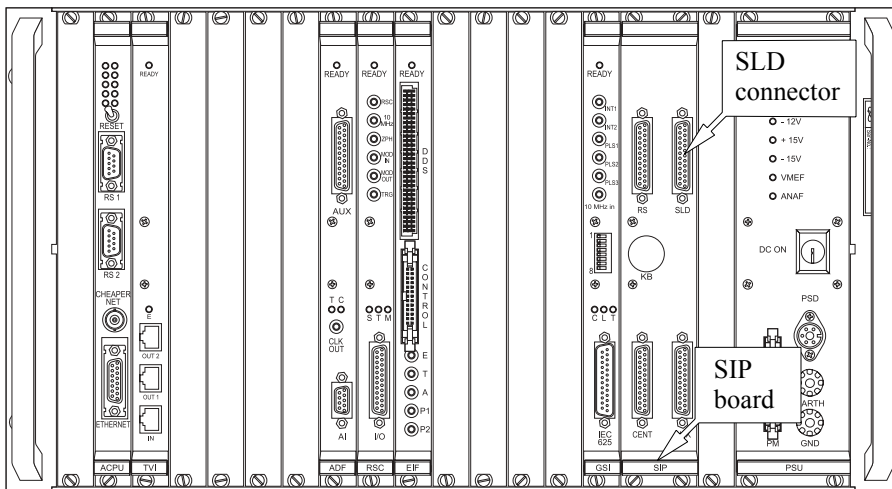

Figure 12-30 Connecting the control cable.
1. **Connect the Slow Device Bus cable.** Open the front door of the console. Connect the **Slow Device Bus** connector (25 pin) on the goniometer electronic box mounted on the magnet to the SLD connector on the SIP board of the acquisition server using a 25 pin Slow Device Bus cable. (See Figure 12-30.)